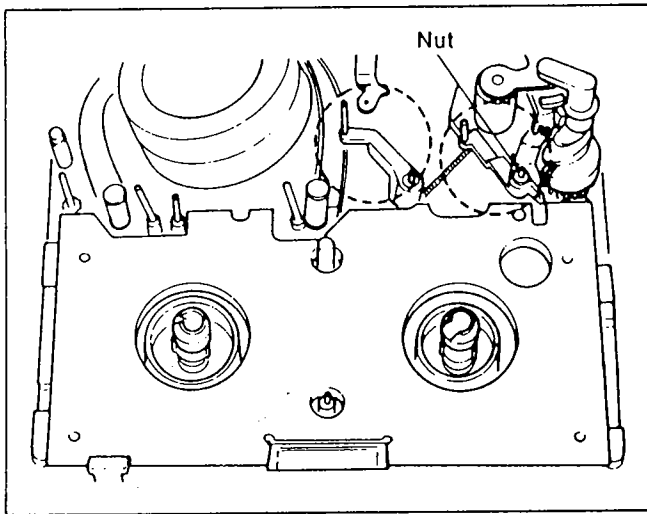

Figure M6
- Turn the Capstan Motor counterclockwise (loading direction) until the mechanical condition becomes as shown in Figure M6.